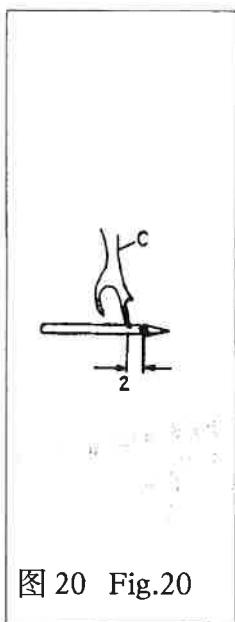

图 20 Fig.20
钩线叉的左右位置,当钩线叉的长叉尖与机针中心线相交时,长叉尖中心到机针穿线孔左边的距离为2毫米左右(图20)。
When the pronged thread hook intersects the central line of the needle, the center of pronged thread hook is deviated from the left side of the needle eye in 2mm distance (Fig.20)
(3)钩线叉高低位置 钩线叉的高低位置以钩线叉叉尖与机针相交(图 20)时，间隙很小但又不相撞为佳，一般要求间隙不大于 0.05 毫米。
Make the prong of thread hook intersect the needle (Fig.20) on condition that prong shall not come into contact with the needle. The interval between the prong and the needle shall be less than 0.05mm